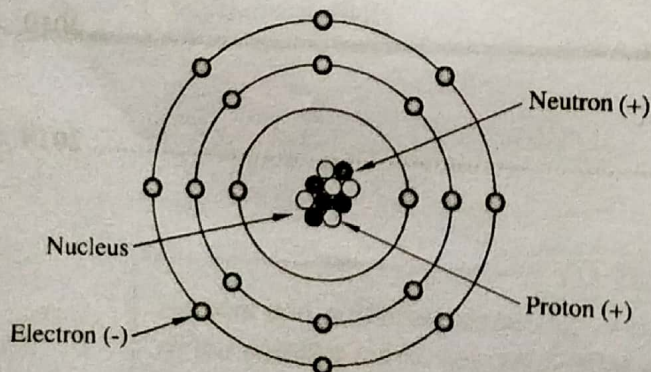

FIG. 1.1 : ATOM AND ITS STRUCTURE
- The basic structure of an atom is shown symbolically in Fig. 1.1.